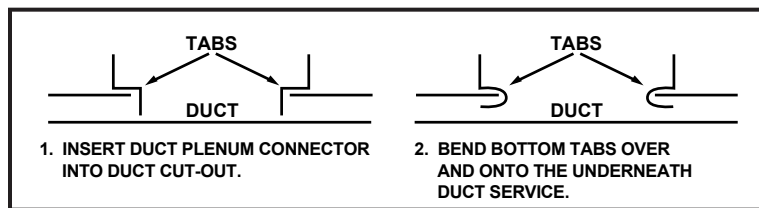

Figure 10. Installation of Duct Connector
- c. Bend bottom tabs under and up tightly against the supply air duct. See Figure 10, page 12.